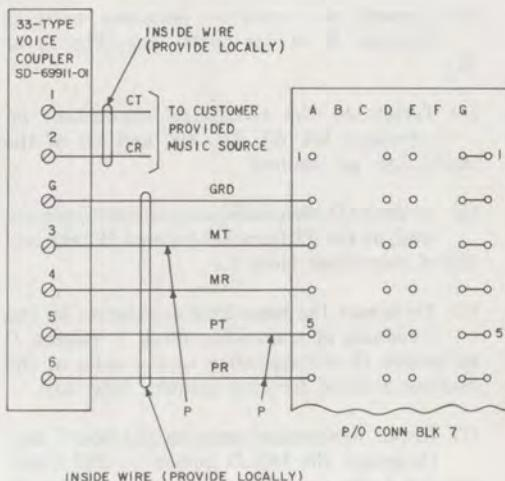

Fig. 30—Connections for 33A Voice Coupler
- (2) Mount voice coupler externally to the KSU (wherever customer desires).
- (3) Connect voice coupler to 580-type KSU as shown in Fig. 30.
- (4) Have customer connect voice coupler to the music source as shown in Fig. 30.
- (5) Replace cover on voice coupler.